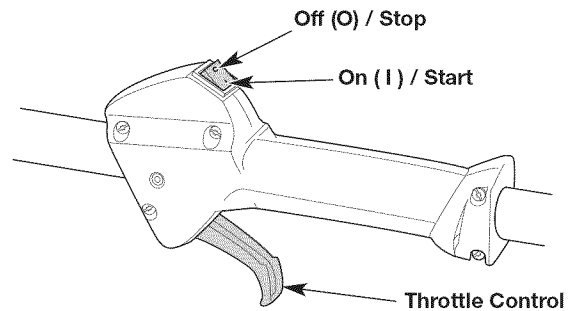
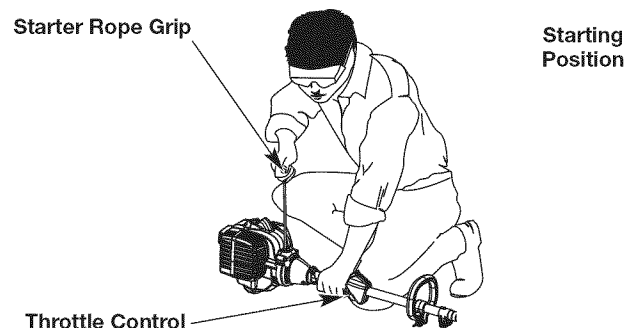

Fig. 7
Fig. 10
**WARNING:** Avoid accidentally starting the unit. To avoid serious injury, the operator and the unit must be in a stable position when pulling the starter rope (Fig. 10).
**NOTE:** There is no need to turn the unit on. The On/Off switch is in the ON ( I ) position at all times (Fig. 7).
5. Crouch in the starting position (Fig. 10).
6. **DO NOT** squeeze the throttle control (Fig. 7). Pull the starter rope with a controlled and steady motion until the unit starts (Fig. 10).
2. Press and hold the On/Off switch in the OFF (O) position until the engine comes to a complete stop (Fig. 7).
6. **DO NOT** squeeze the throttle control (Fig. 7). Insert the Speed Start™ accessory into the Speed Start™ port (Fig. 21). Refer to the *Operation* section of the Speed Start™ accessory operator's manual.